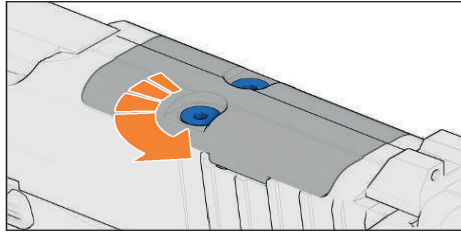

Figure 10 – Loosen screws
1. Loosen screws and remove (Figure 10).